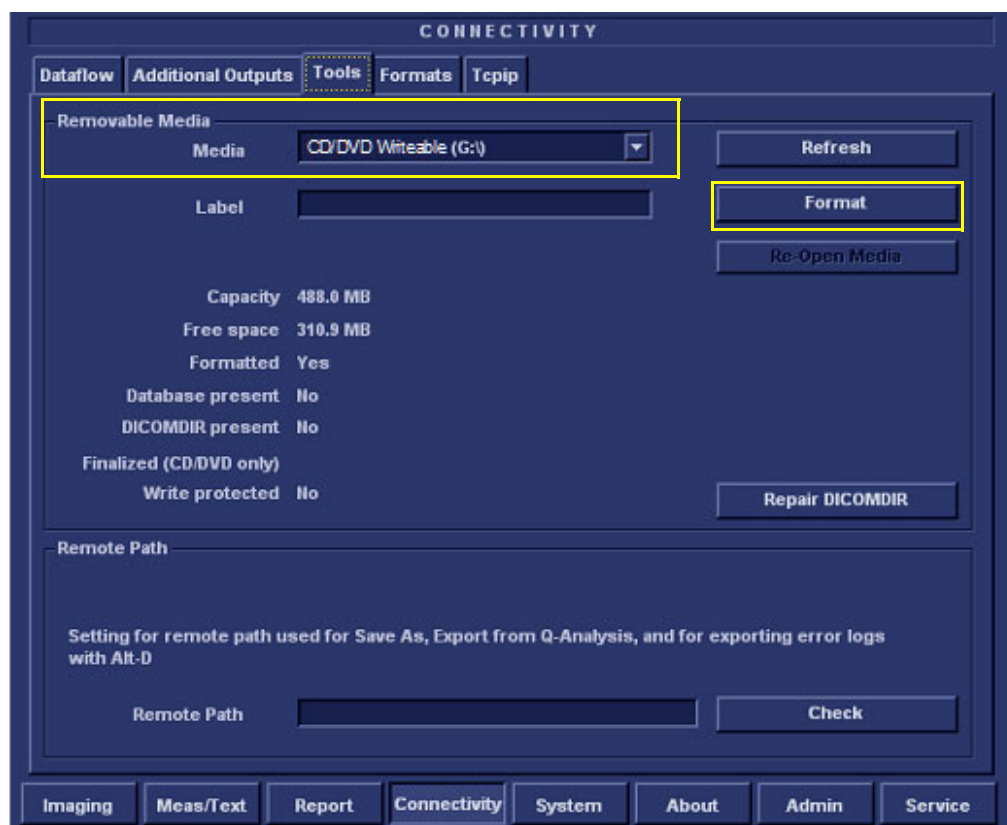

Figure 7-146 Connectivity - Tools - Removable Media
- 5.) Under *Removable Media*, select the media type **CD/DVD Writeable** from the Media drop-down menu, as shown in Figure 7-146.